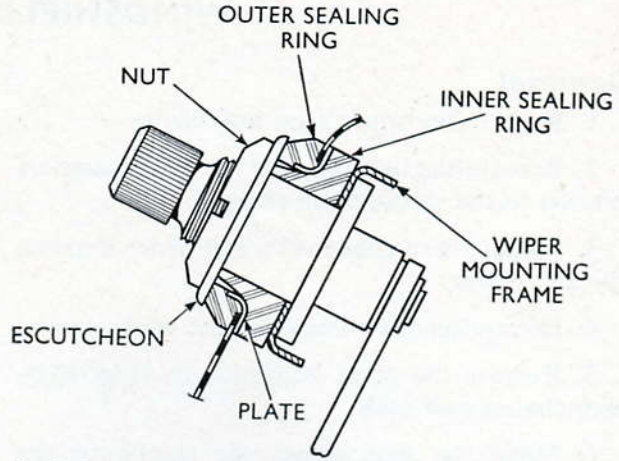

Fig. U.6. Sectioned view of wiper pivot housing attachment to scuttle
1. Use new sealing rings for the pivot housings and assemble a plate against the inner seals (Fig. U.6). Do not tighten the nuts until the lower attachment is secure, together with the earth strip.